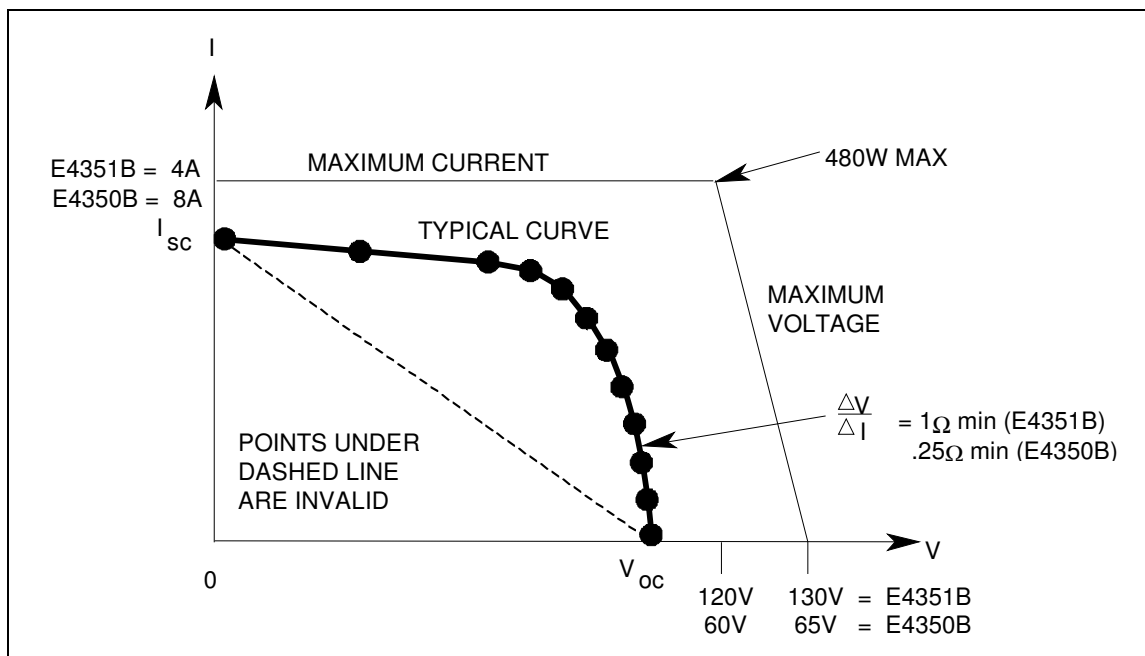

Figure 1-3. Table Mode Characteristic
In Table mode, the output characteristic is determined by a user-defined table of voltage/current points (see Figure 1-3). Table mode operation is achieved by sampling the output voltage, applying a low-pass filter, and continually adjusting the constant current loop by using the filtered voltage as an index into the stored table of points. Linear interpolation is used to set the current when the filtered voltage does not have an exactly matching table entry. What this means is that the I-V curve is generated by connecting the points in the table by straight lines. The more points that you provide, the more accurate the curve will be when the points are connected.
- Points must be above dashed line shown in Figure 1-3.